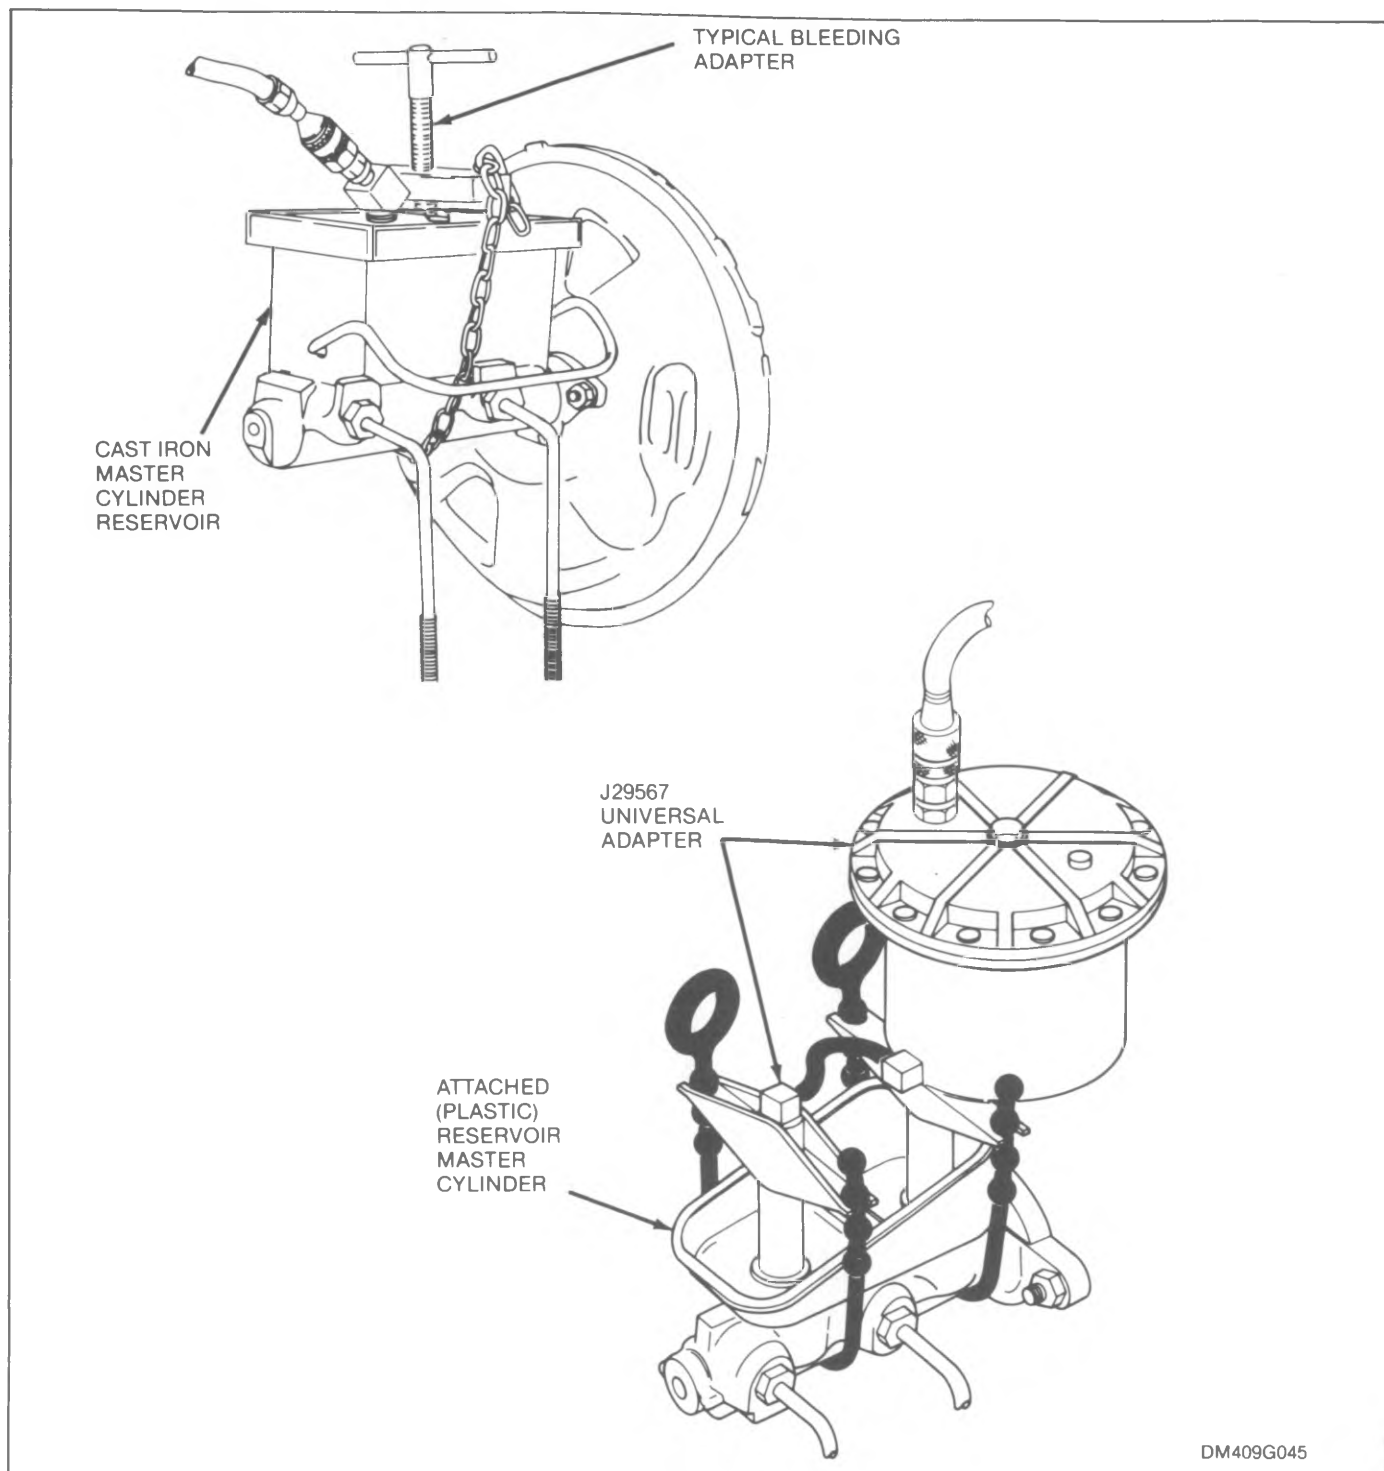

Figure 6-1. Bleeding Adapters
bleeding adapter or fixture that fits on the master cylinder is also required. The adapter transmits fluid from the pressure tank to the vehicle's hydraulic system through the master cylinder. Adapters are available in several sizes and shapes to fit different master cylinders. The J29567 universal adapter (see figure 6-1) can be used on attached (plastic) reservoir units. Proceed as follows:
1. Install the special bleeding adapter or fixture on the master cylinder (see figure 6-1).